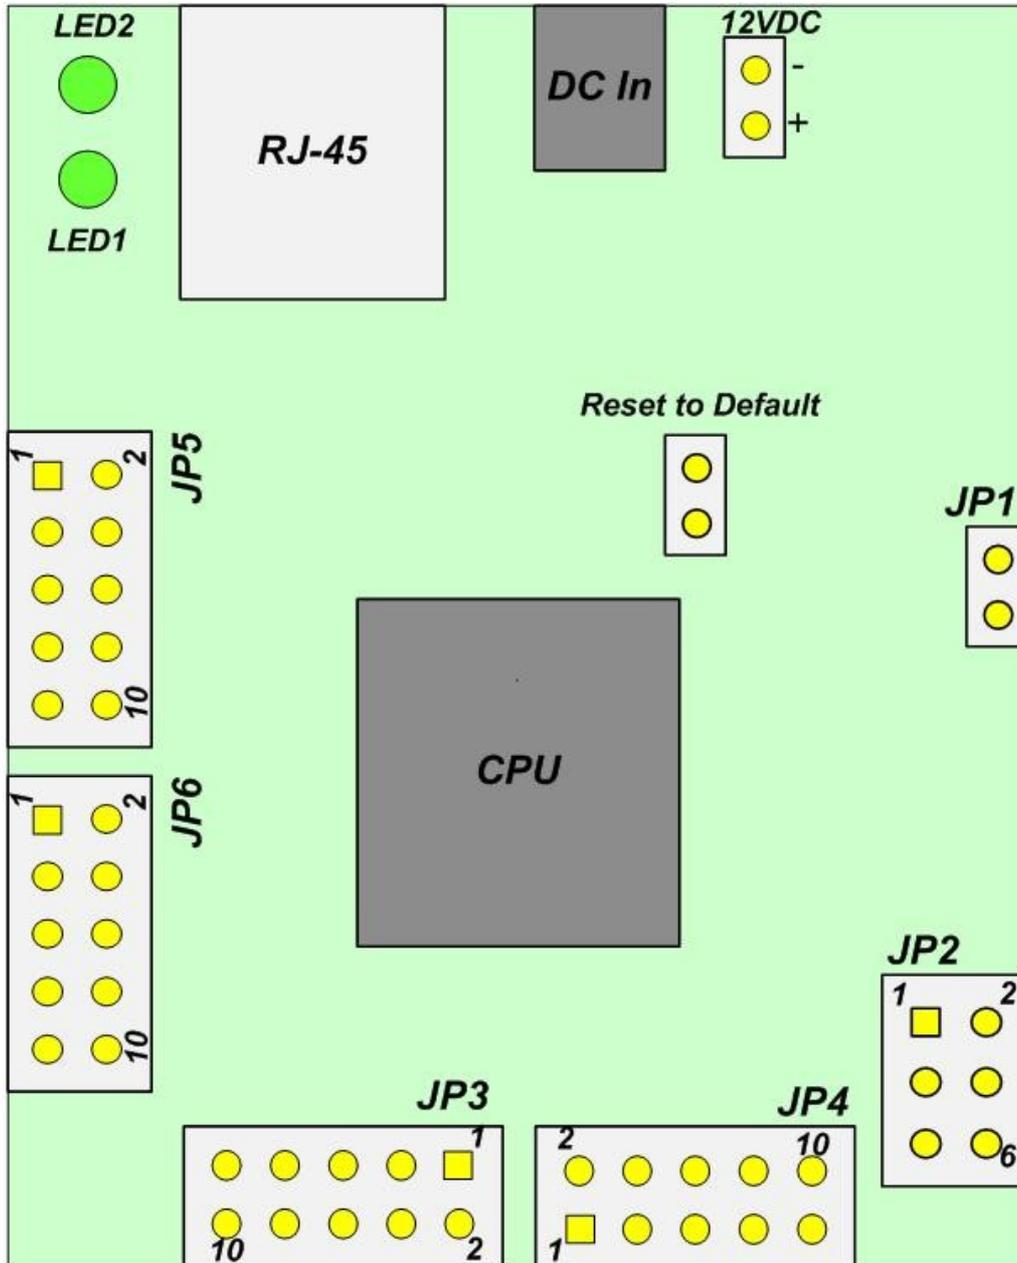

Figure 5. DAEnetIP2 ports
**Setting low level the I/O lines while monitoring restart** If this option is enabled DAEnetIP2 will set in logical "0" all the outputs P3 and P5 (look figure 5 and table 3)